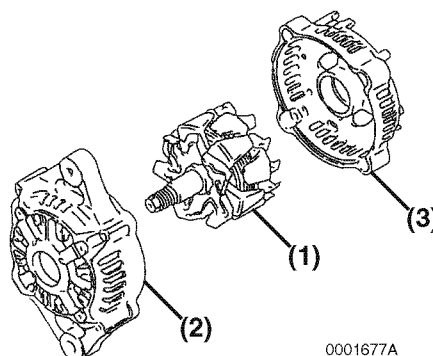
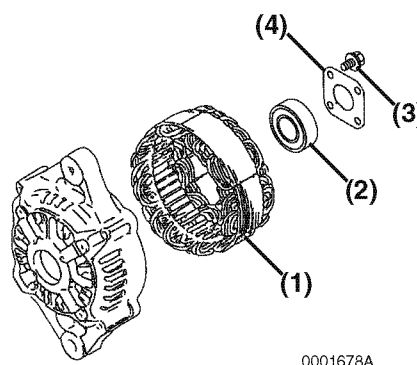

Figure 11-9
Figure 11-10
10. Using a press, remove the rotor assembly (**Figure 11-9, (1)**) from the front frame housing (**Figure 11-9, (2)**) and rear frame housing (**Figure 11-10, (1)**).
11. Remove the stator assembly (**Figure 11-10, (1)**) from the front frame housing.
12. If necessary to replace the bearing (**Figure 11-10, (2)**) in the front frame housing, remove the four bolts (**Figure 11-10, (3)**) securing the plate (**Figure 11-10, (4)**) to the front frame housing. Remove the plate. Use a puller to remove the bearing. Discard the bearing.